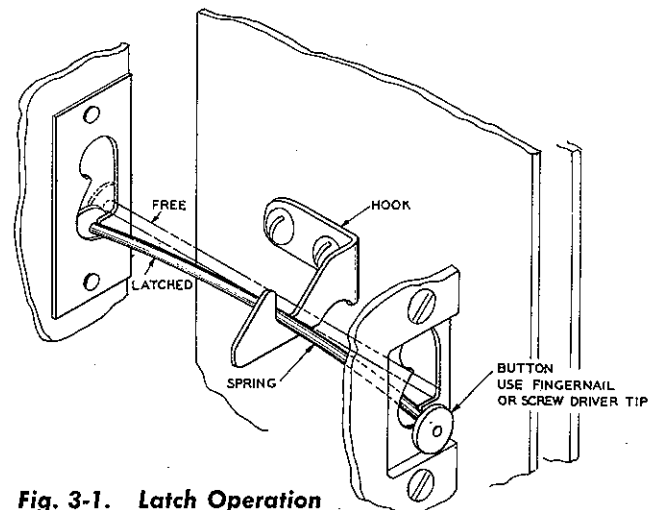

Fig. 3-1. Latch Operation
d. To reassemble, disconnect at voltmeter, J-103. Coil the cable W-101 within the meter box and around the meter, as in Fig. 1-2. With meter box in about the relative position of Fig. 1-2, tuck excess cable in by working the loops out into corners of meter box. See that both crystal diode CR-101 and Cap-H-101 are plugged in. Reconnect to J-103 as shown in Fig. 1-2. Rotate the meter box to position, engaging 4 pins or corners of radiator and noting that cable W-101 is not kinked or pinched. Engage the latch spring per Fig. 3-1, first one button, then the other. The second will be found to resist with stiff spring action. Check by pulling on the meter box.